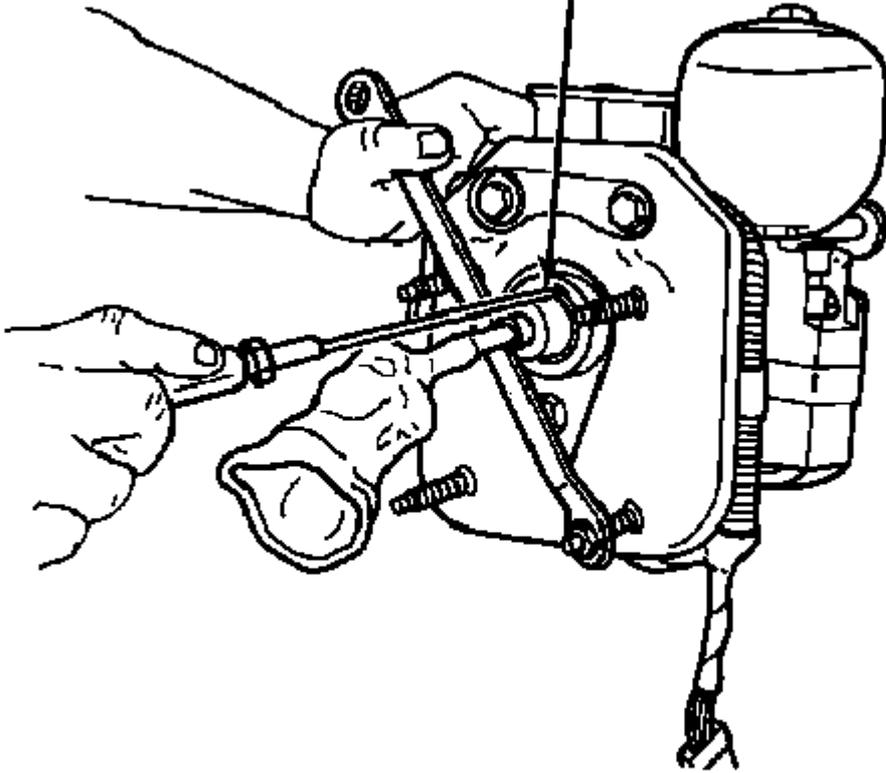

Figure 9
8. Rotate the open end of the snap ring near the 12 o'clock position. Place a small screwdriver in the 12 o'clock keyway on the actuator, (Figure 9). Pry the snap ring down and out of the groove with the screwdriver and pull the snap ring out of end of the actuator. Discard the snap ring.